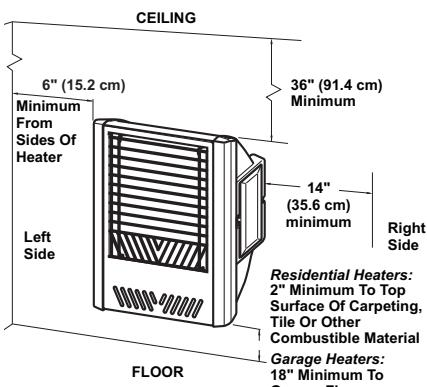

Figure 4 - Mounting Clearances As Viewed From Front of Heater
**⚠ WARNING:** Maintain the minimum clearances shown in Figure 4. If you can, provide greater clearances from floor, ceiling and joining wall.
**⚠ WARNING: Maintain minimum clearances shown in Figure 4. If you can, provide greater clearances from floor and joining wall.**